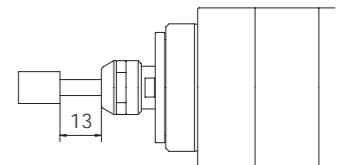

Fig.21
- Do not exceed 13mm overhang for mounted grindstones. In case overhang must exceed 13mm reduce the motor speed in accordance with Fig.21 and Table 4.